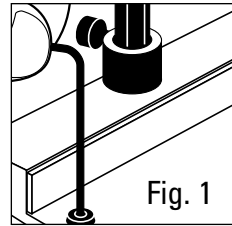

Fig. 1
1. Align set of holes in arm with holes in vise, making sure the rubber bumper faces up. (Fig. 1).